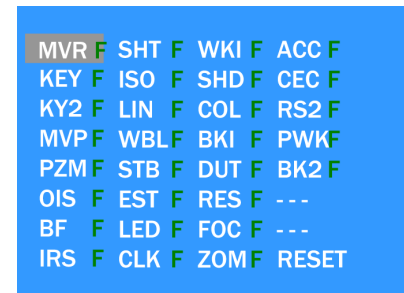

Fig.3-2
1. After pressing the [ DISPLAY ] button, the LCD monitor displays the Flag status screen (Refer to Fig.3-2)